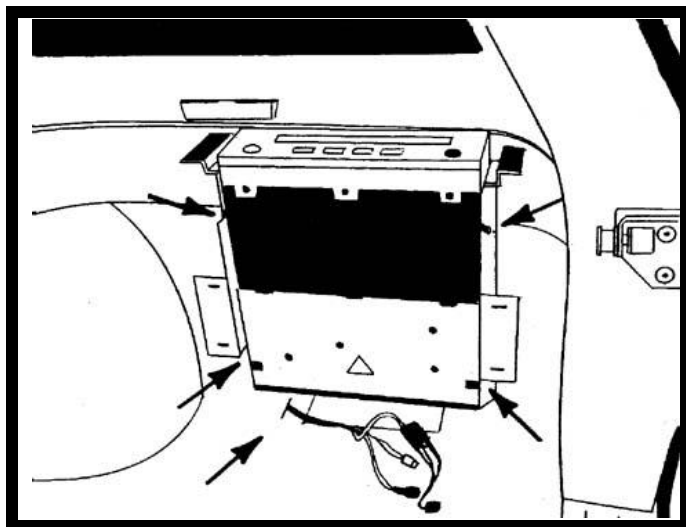

FIGURE 5
5. Align screws in VCP with slots in bracket and slide into position. Make sure wiring does not rub against edge of bracket. See Figure 5.